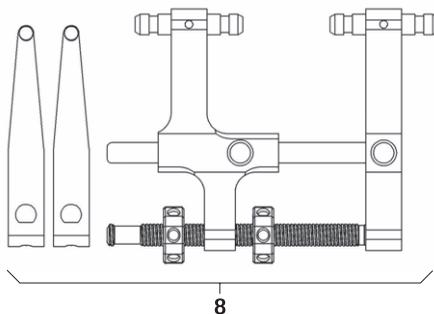

Fig. 13
- ▶ Mount distractor 8 with the distraction blades, see Fig. 13.